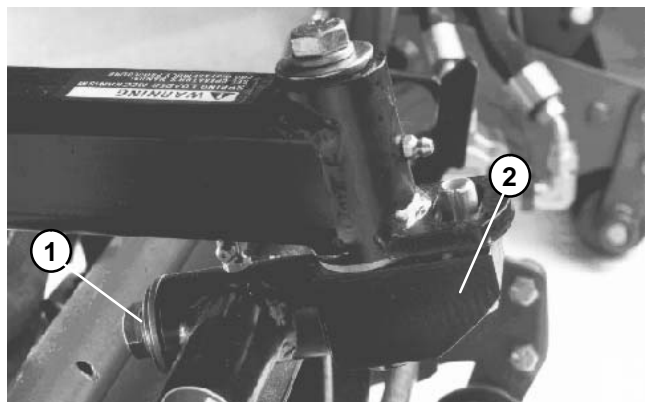

Figure 20
4. Remove cap screw, lock washer, flat washer and thrust washer from cutting unit mounting shaft (Fig. 20).
5. Pull cutting unit off mounting shaft (Fig. 20).
1. Position cutting unit onto the mounting shaft (Fig. 20).
2. Secure thrust washer, flat washer, lock washer, and cap screw to the cutting unit mounting shaft (Fig. 20).